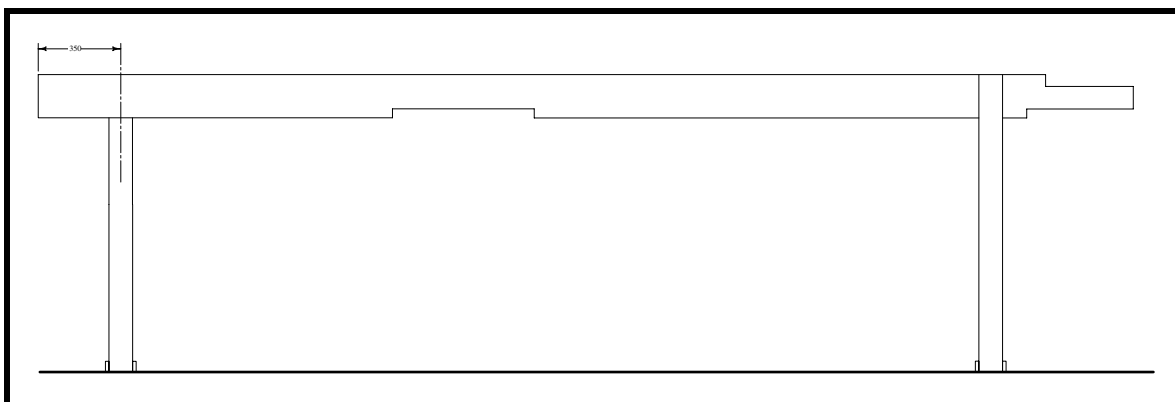

Figure 7
- ❑ Make and install the fuselage jig supports. See Figure 7. The aft support must be removable, so install it with bolts.